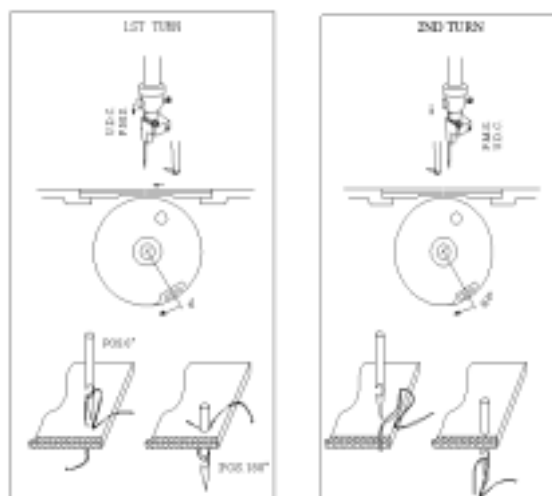

FIG.5,6
The first cycle begins with the threaded needle that descends from the U.D.C. (Upper Dead Center) with the upper hook (46), beginning the stroke in which it picks up the thread on the needle, and finishes with the needle back at the U.D.C. without the thread while the upper hook is in a resting position behind the needle. FIG. 5